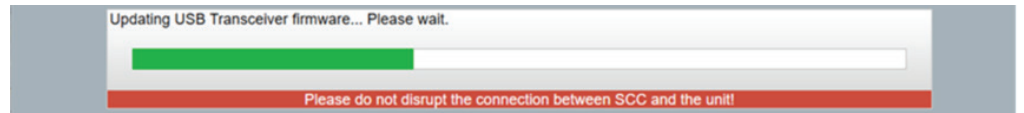

Figure 9. The USB transceiver firmware update progress bar.
- Click on the Perform Firmware Update radio button. A progress bar will appear showing the USB transceiver firmware update progress. See Figure 9 on page 15.